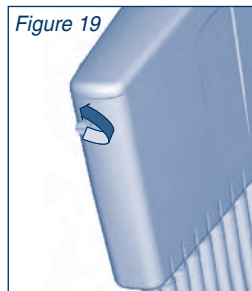

Figure 19
- Remove the two screws, which are located at either side of the head, using a miniature screwdriver (figure 19).